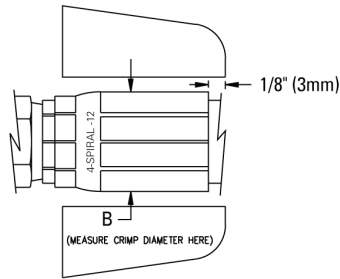

Figure 1
- To achieve full flat crimp locate back edge of socket approximately 1/8" (3mm) from back edge of crimp jaws as shown in Figure 1.